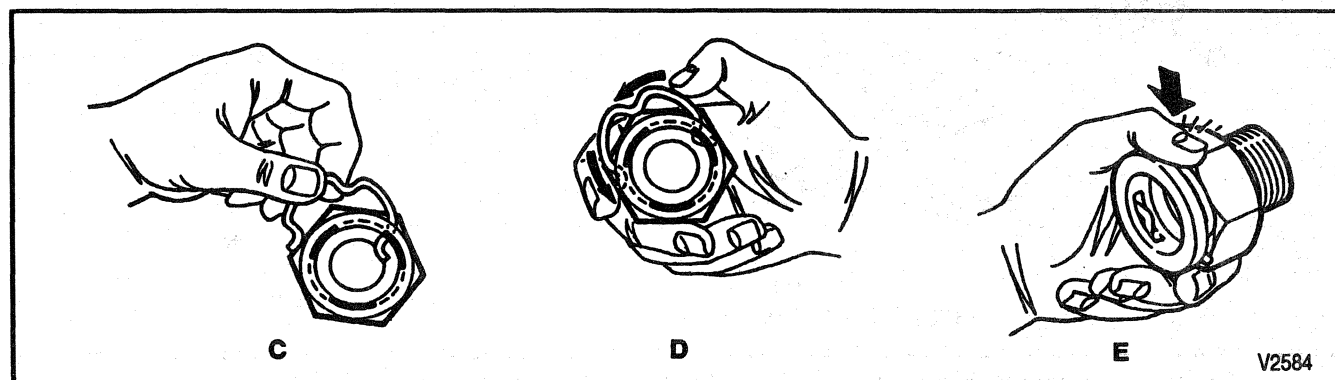

Figure 47—Installing Oil Cooler Line Clip Into Connector
- Using your thumb and forefinger, insert a new retaining clip into one of the three recesses in the connector fitting (C in Figure 47). With one end of the retaining clip engaged in the connector fitting slot, use your thumb and rotate the retaining clip around the connector fitting until it snaps into place (D and E in Figure 47).